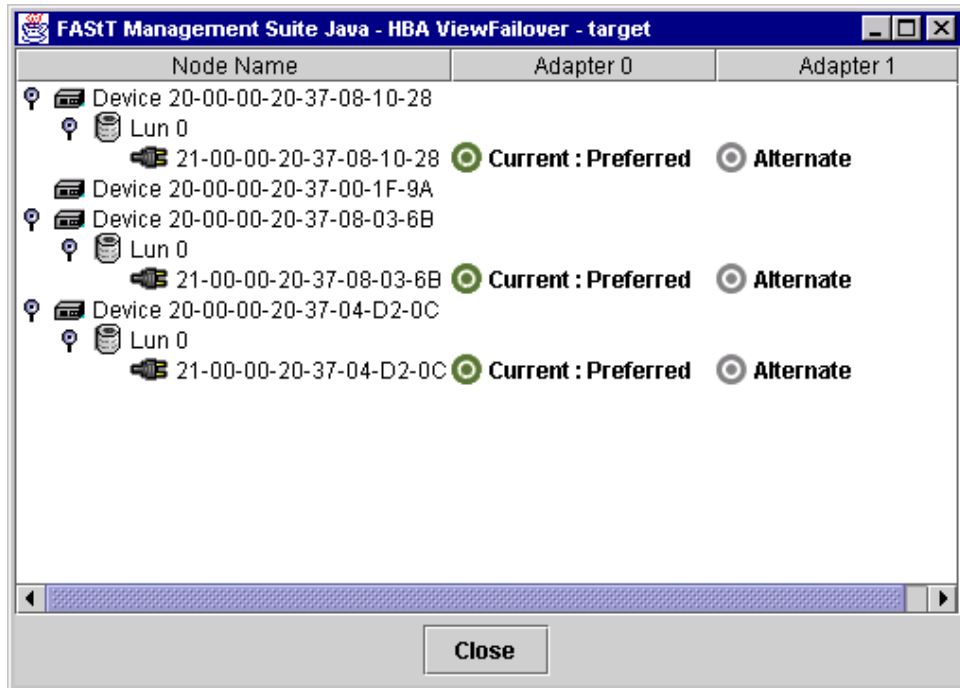

Figure 104. HBA View Failover window
- Right-click the host in the HBA tree. From the pop-up menu, click **Current Path**. The HBA View Failover window is displayed (see Figure 104). The identifying information is displayed: